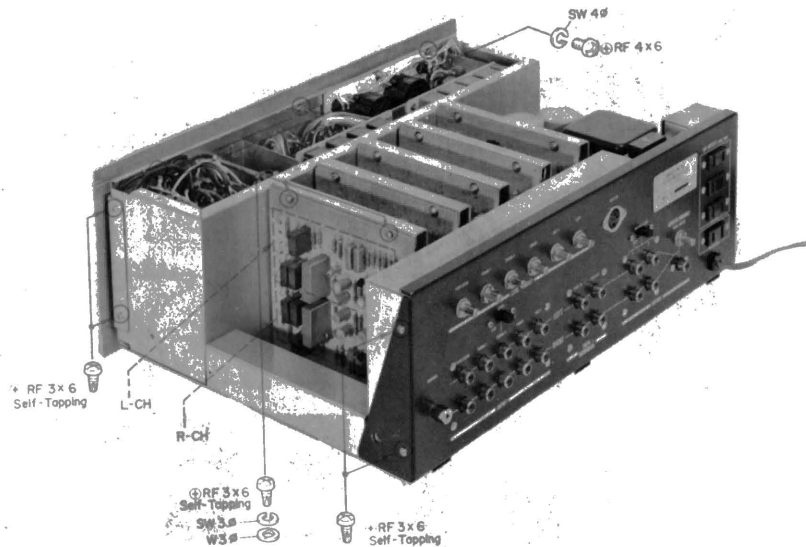

Fig. 2-2. Removal of Front-Panel Ass'y
- Remove the two self-tapping screws (+RF3 $\phi$  ×6) on each side of the chassis. See Fig. 2-2.
- Remove the three Phillips-Head screws (+RF4 $\phi$   $\times$ 6) behind the top edge of the Front Panel Assembly. See Fig. 2-2.
- Remove the two self-tapping screws (+RF3 $\phi$   $\times$ 6) on each side of the chassis. See Fig. 2-2.